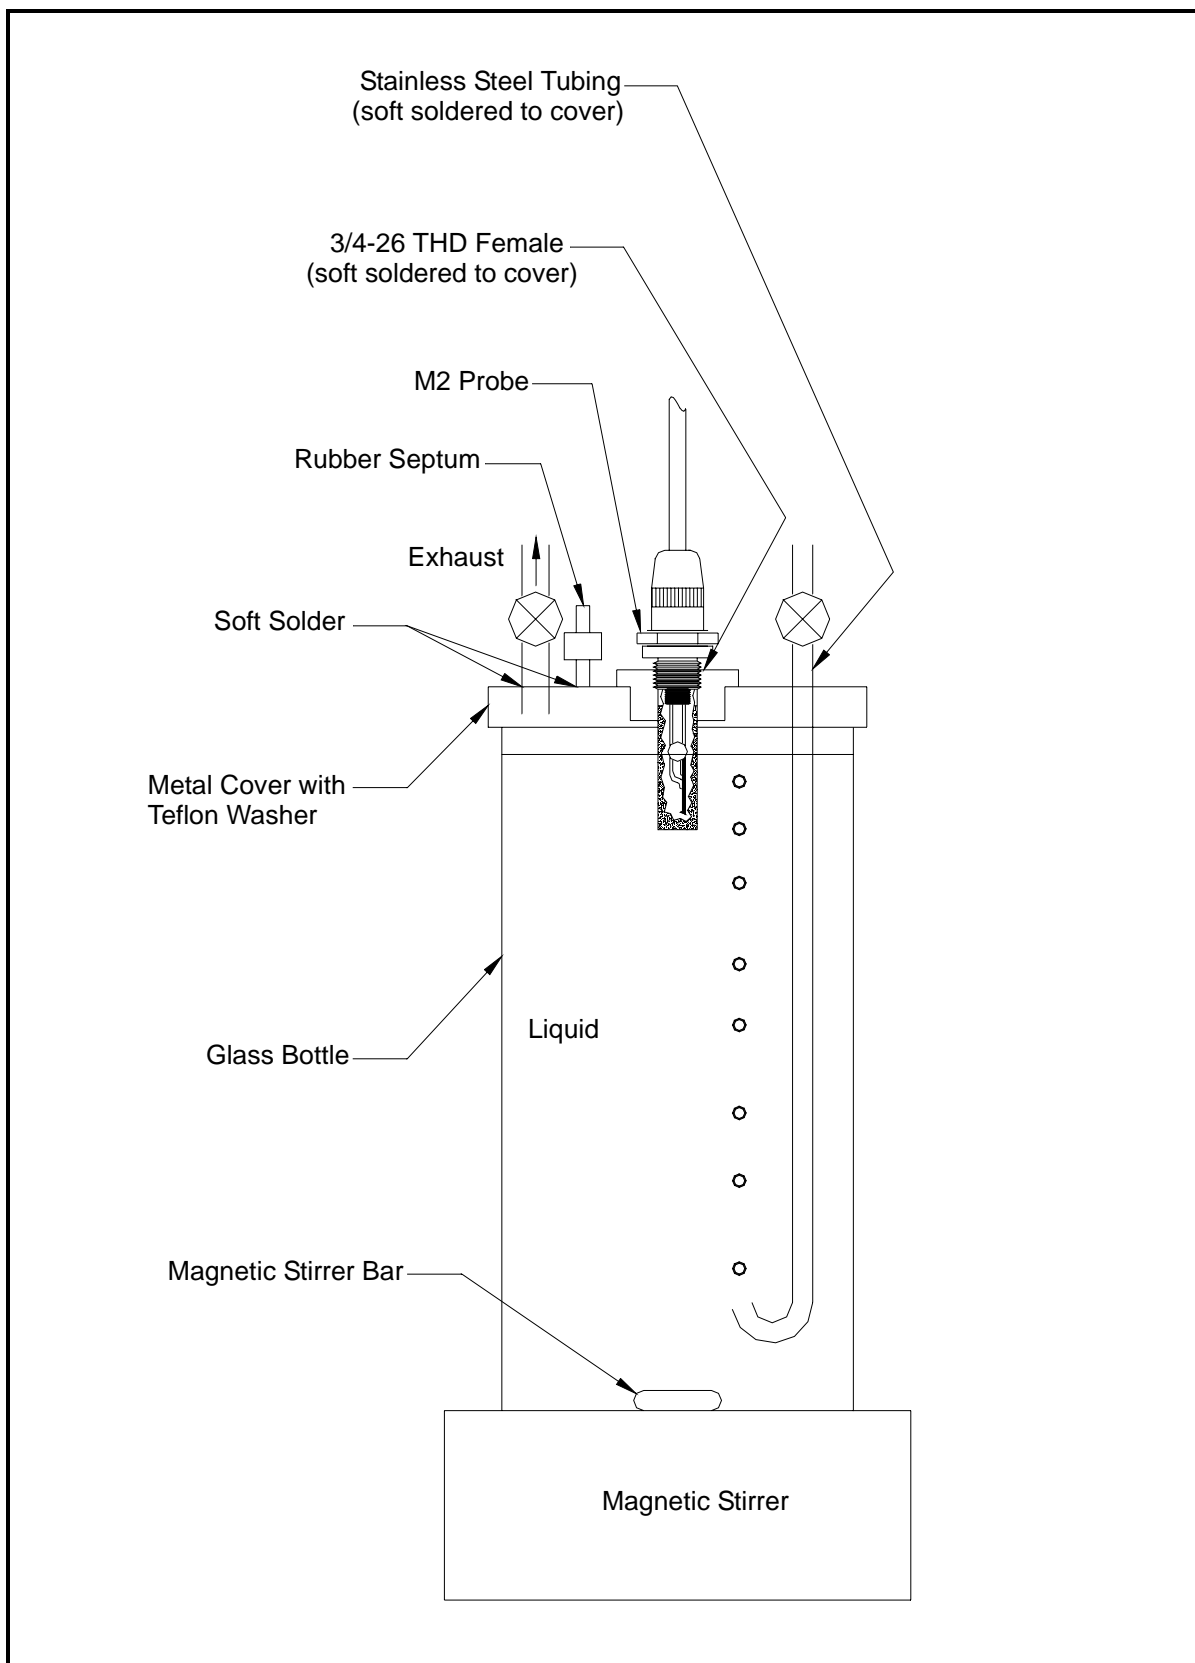

Figure A-3: Moisture Content Test Apparatus
Either of the empirical calibration techniques described above can be conducted using an apparatus equivalent to that shown in Figure A-3 on page A-33. The apparatus pictured can be used for both the Karl Fischer titrations of unknown test samples and the preparation of test samples with known moisture content. Procedures for both of these techniques are presented below.
To perform a Karl Fisher analysis, use the apparatus in Figure A-3 on page A-33 and complete the following steps:
To prepare samples of known moisture content, use the apparatus in Figure A-3 on page A-33 and complete the following steps:
- a. Using the apparatus shown in Figure A-3 on page A-33, dissolve a known amount of the solids sample in a suitable hydrocarbon liquid.